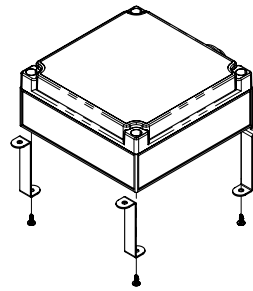

FIGURE 2
3. Install brackets to the SES320 unit. (See Figure 2)